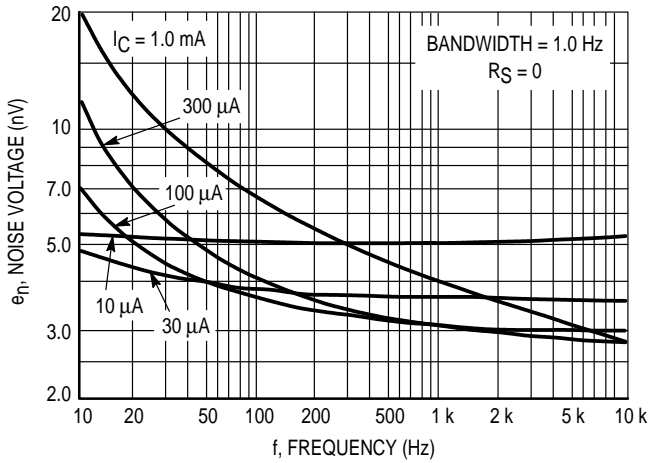

Figure 3. Noise Voltage
- $e_n$  = Noise Voltage of the Transistor referred to the input. (Figure 3)